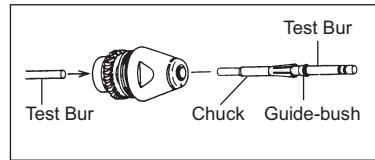

Fig. 12
- ③ When the rotor nut is loose. Push out the chuck carefully with a dummy bur or the bur shank from the back of the cartridge, the Guide-bush and the chuck will come out. (Fig.12)